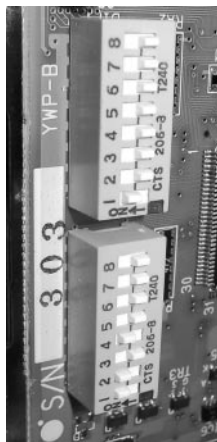

Figure 2-3. FT5000 Printer Controller Board Dip Switch Settings
4. Refer to Figure 2-3. Make sure the switches on the two set dip switches are